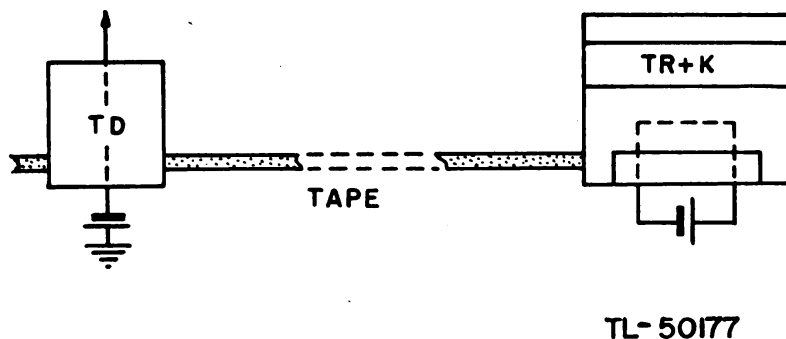
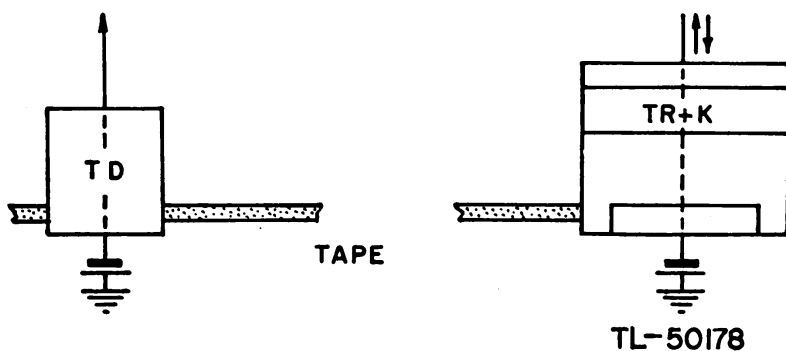

Figure 15. Operating combination A and connections.
Figure 16. Operating combination B and connections.
o. Connect signal circuit cords of reperforator, transmitter-distributor and associated teletypewriters in accordance with instructions for desired operating combination given in figures 15 to 21 inclusive (par. 12*a*).
more than one line unit is required, as in the operating arrangements shown in figures 16, 17, and 20, connect these additional line units (indicated by dotted lines in fig. 12) to secondary sources of d-c power to avoid cross-
RA-87 or RA-89. When two line units are to be connected to a common d-c power source, the connections must be properly poled before the ground wire is attached to the GND binding post to prevent short-circuiting the power supply. Obtain the proper polarity by connecting the power cords so that the meters of both line units deflect in the same direction. If Line Units BE-77-A are used, check the polarity by placing the METER key in the voltage position (TM 11-359). If Line Units BE-77 are used, make the power, line and ground connections to each line unit separately to check polarity before the common connections to the d-c power source are made. When it is necessary to supply d-c to the local circuits of the jack box, as in operating combinations shown in figures 15, 17, 18, 19, and 21, connect the d-c power cord from the jack box to any source of 115-volt d-c power. However, if the source is a rectifier, not more than one line unit may be connected to the rectifier in addition to the d-c power cord of the jack box. When the set is to be connected to short lines and only 115-volt, 25-, 40-, or 50- to 60-cycle power is available (using no rectifier), it is frequently possible to operate the set satisfactorily with the power arrangements shown in figure 13 (emergency operation, refer to TM 11-359). Be sure that the power selector switch on the right side of the jack box and the rectifier input-voltage taps are set for the type and voltage of power source to be used before turning the power ON (TM 11-957). To avoid possibility of electrical shock to operating personnel and to reduce interference from the motor circuits, connect an earth ground to the binding post marked EARTH CONNECTION on the lower left-hand side of the jack box. NEVER connect this binding post to the ground connection being used for ground-return signal circuits unless it is a low-resistance connection such as a water pipe. Use a separate ground rod.
12. SIGNAL-CIRCUIT CONNECTIONS AND ADJUSTMENTS. a. **Connections.** The typing reperforator, transmitter-distributor, and a page-printing teletypewriter may be arranged in a number of various operating combinations, some of which are given in figures 15 to 21 inclusive. The necessary signal-circuit cord connections between the respective units, jack box and line units are described in the text associated with each figure (fig. 14). Make line connections to the line units (TM 11-359). When more than one line unit is required (figs. 16, 17, and 20), the additional line units may be secured from telegraph printer sets or teletypewriter sets associated with the installation.
b. **Possible operating combinations for Reperforator Teletypewriter Sets TG-26-A and TG-27-A.** (1) To prepare a perforated and printed tape locally and to transmit simultaneously to line from tape make the following box connections: